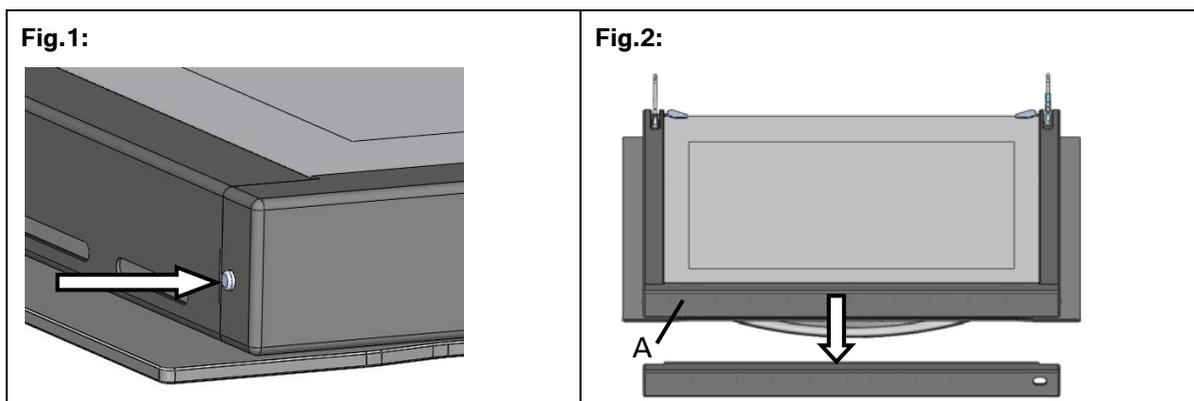

Fig.3:
- Remove the seal A(Fig.2)、 B、 C(Fig.3) by push the no.2 rods of left and right sides(fig.1)